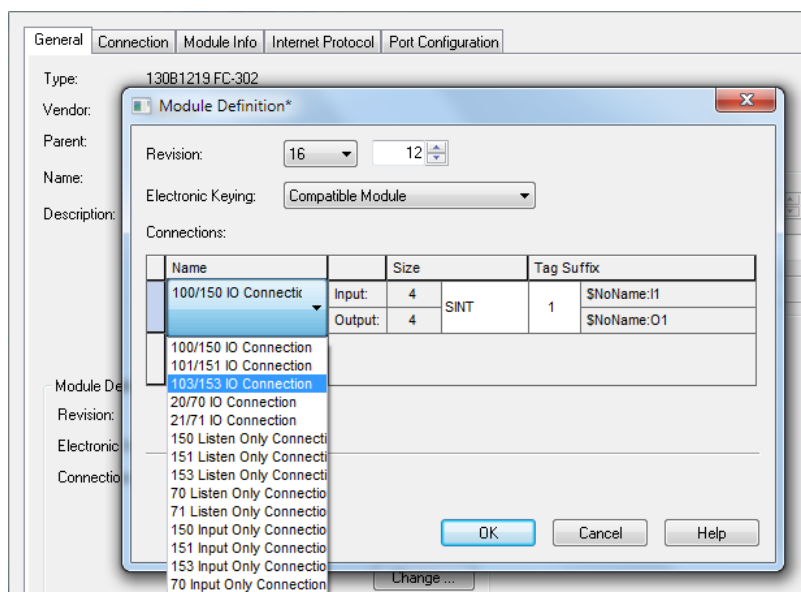

Figure 6
3. Change the module connection instance from 100/150 to 103/153 by clicking on the button 'Change...' and the Module Definition dialogue will appear, as in figure 6.